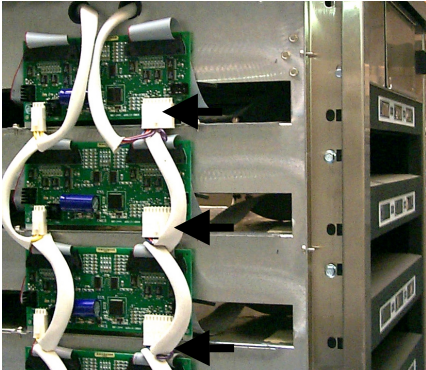

Fig: 10: CN2 connectors are disconnected from the driver board to test new displays.
- With the cabinet's sides still off, disconnect CN2 connector from the display driver(s) to be tested. **Fig 10.** Plug unit in and turn on power switch. The selected display will show "Disp Test Mode". Press each function button on the selected membrane switch, starting with the timer key at the left. Each button must be pressed in sequential order, starting at the left on the front display and continuing to the rear display. After all buttons have been pressed, each LED (Light Emitting Diode) display should illuminate sequentially. **Fig: 11**